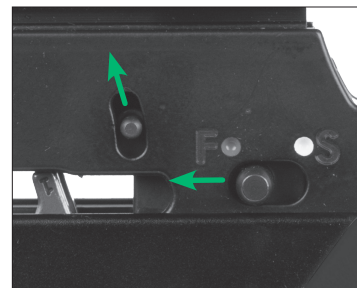

FIGURE 14
- 1a Push and Hold the Cocking Preparation Switch forward. (Fig. 14)
- 1b While holding the Cocking Preparation Switch forward, slide the safety switch from the ON SAFE position to the FIRE position. (Fig. 14)
- 1c Release the Cocking Preparation Switch once the safety switch is in the FIRE position. (Fig. 14)